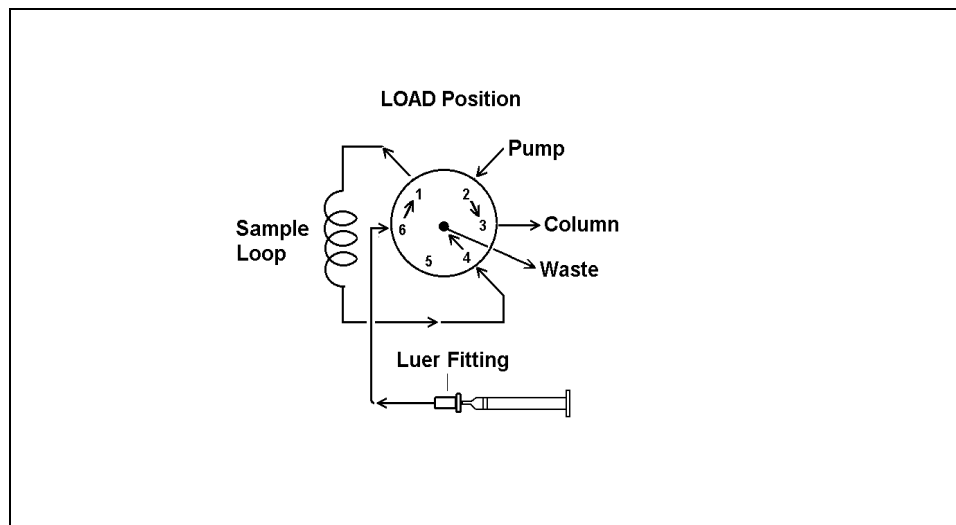

Figure 3-2. Loading Sample with the Bulkhead Fitting
- **Loading sample through the bulkhead fitting:** (Figure 3-2) Connect a luer fitting and sample-filled syringe to the bulkhead fitting in the column mount bracket (see Figure 1-2 for the location of the bulkhead fitting). Connect the injection valve waste line in port #6 to the rear of the bulkhead fitting. Insert the needle adaptor shipped with the Rheodyne valve into the needle port. (If necessary, refer to the Rheodyne valve manual.) Push sample through the waste line; waste sample will exit the valve through the needle adaptor. No sample will come into contact with the metal needle of the needle adaptor.